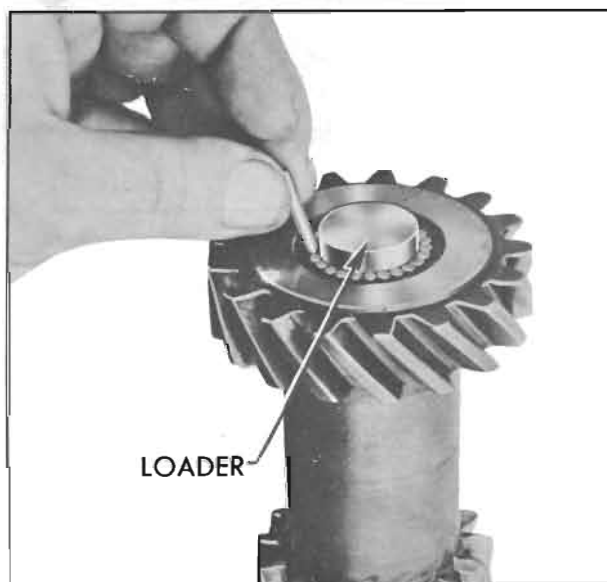

Figure 4-23—Installing Counter Gear Bearings with Loader
(7) *Counter Gear Bearings, Thrust Washer and Shaft.* Use Bearing Loader J-1001 when installing spacer, washer, and bearings in counter gear. See figure 4-23. Pack bearing rollers in white vaseline to hold them in place and make certain that all rollers are installed (26 in each bearing). Leave loader in gear until it is pushed out by the counter gear shaft during installation.